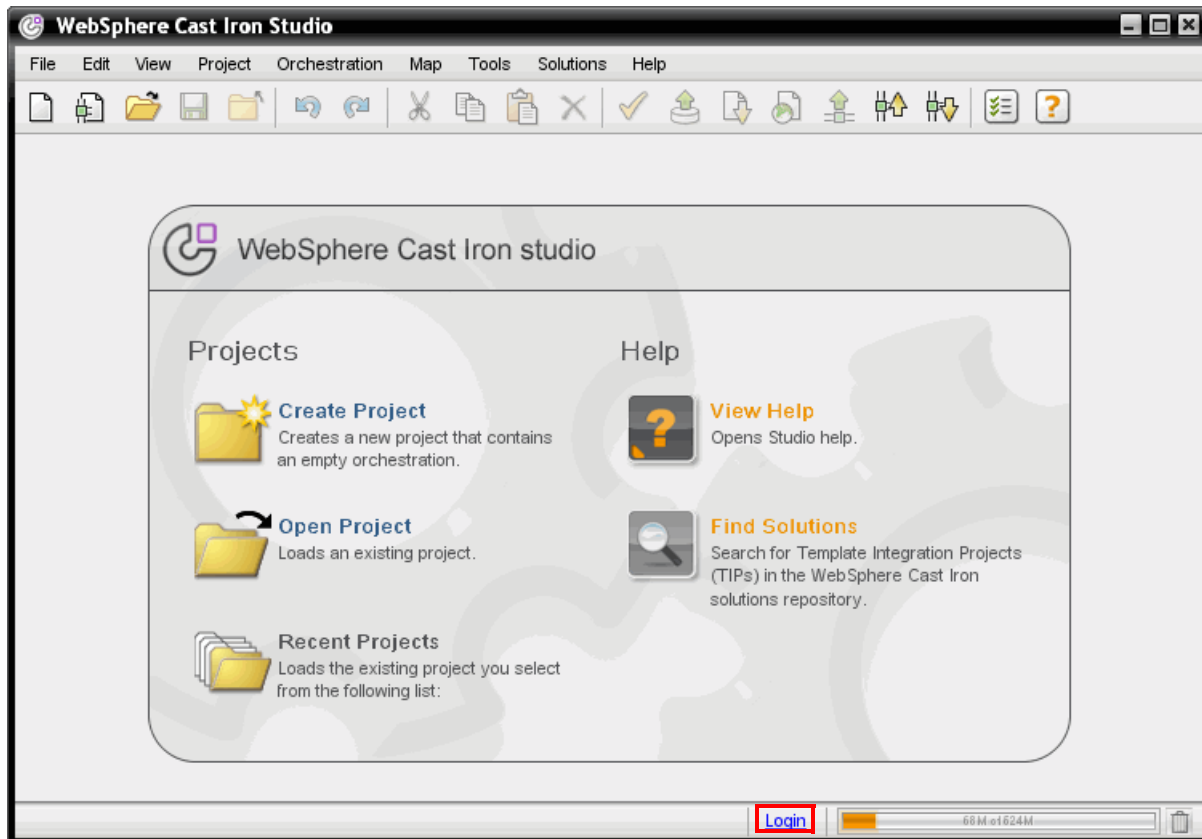

Figure 8-23 Login option
2. Log in to the community by clicking **Login**, as indicated in Figure 8-23 on page 346.